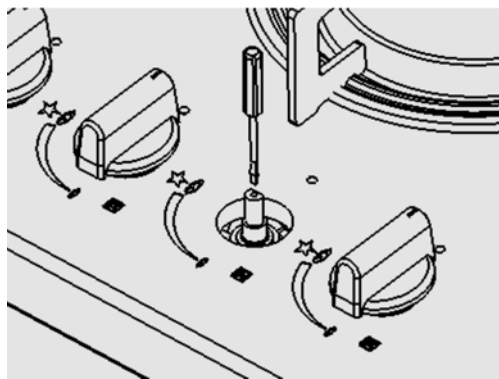

Figure 7
2. Take down knob (take down extended pole while the hob has it), use screwdriver to rounded bolt (Figure 7), fire became low while turn to clockwise, and fire became high while turn to anticlockwise